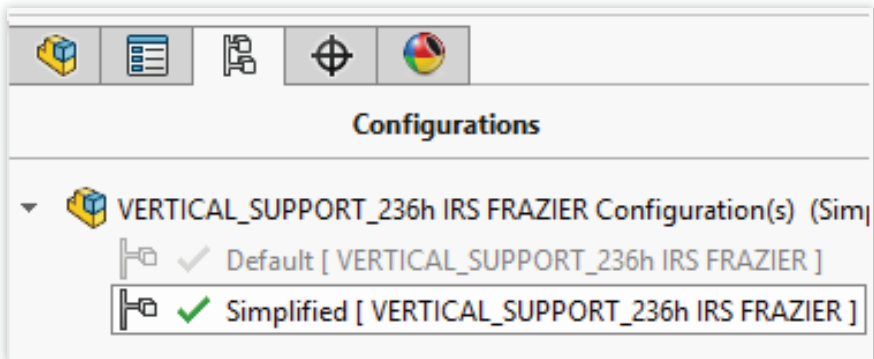

Fig. 13
- In the table, enable **Suppress** to eliminate the undesired features. See Fig. 13.